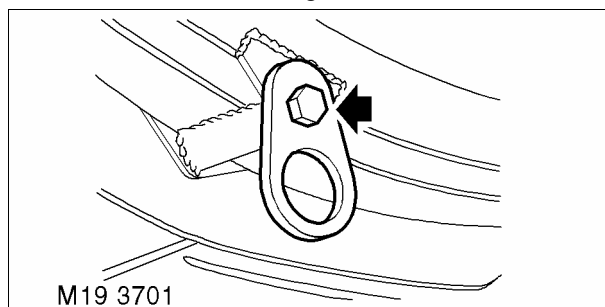

Fig. 6
- 10 Remove rear towing eyes. Fig. 6.